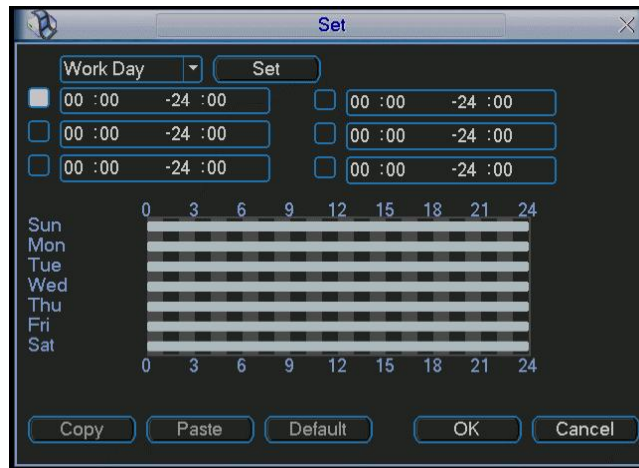
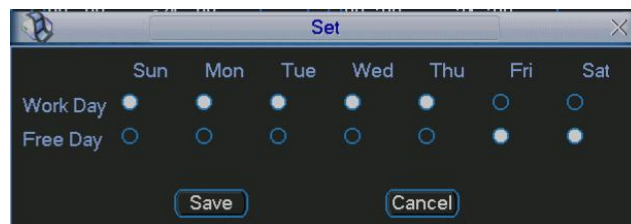

Figure 4-17
Figure 4-18
- Period: Click set button and you will see an interface shown in Figure 4-17. Here you can set business day or non-business day. In Figure 4-17, click set button, you can see an interface is shown as in Figure 4-18. Here you can set your own business day or non-business day.
- Period: Click set button to display an interface shown in Figure 4-17. Here you can set a business day or non-business day. In Figure 4-17, click set button, you can see an interface is shown as in Figure 4-18. Here you can set your own setup for business day or non-business day.
- Period: Click set button and you will see an interface as shown in Figure 4-17. Here you can set a business day or non-business day. In Figure 4-17, click set button and you will see an interface as shown in Figure 4-18. Here you can setup ar business day or non-business day.